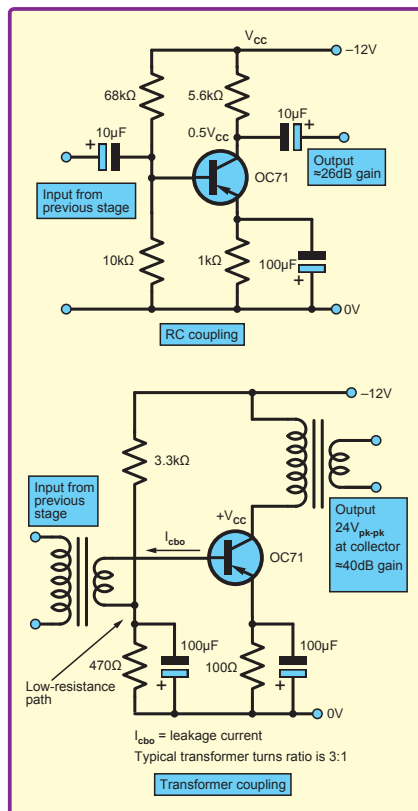

Fig.17. Transformer coupling vs resistor-capacitor (RC) coupling
To maximise gain and deal with the high leakage currents (due to the higher intrinsic conductivity of germanium) transformer coupling was often employed. This doubles (at least) voltage efficiency, since the full rail voltage is available at the collector rather than just half the rail voltage with resistor capacitor (RC) coupling (Fig.17). Inductive coupling and a low turn-on voltage also have the benefit of providing fantastic